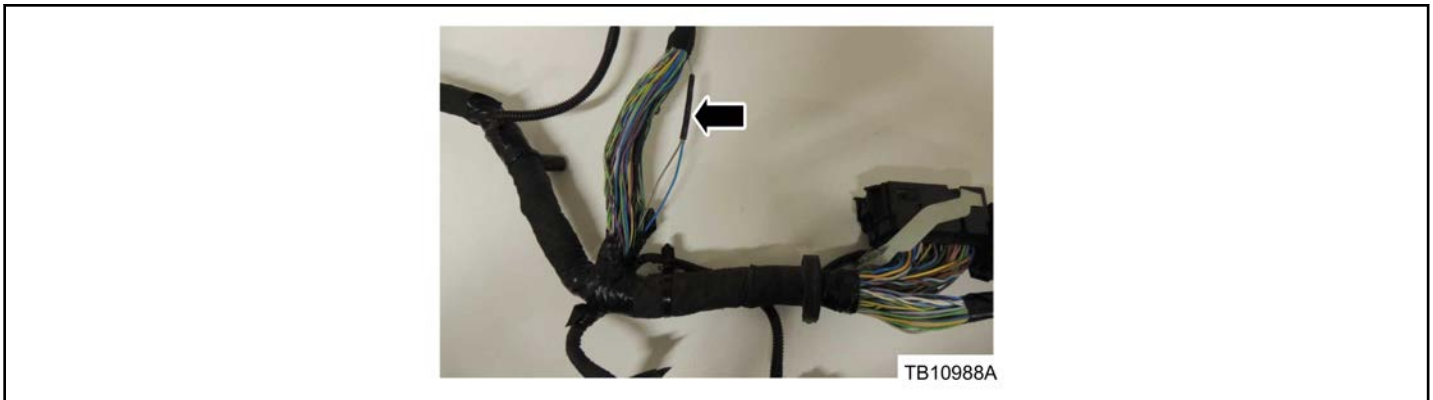

Figure 1 - Article 16-0161
6. Locate the section of engine wire harness that contains splice S129. Refer to Wiring Diagram (WD), 152-1 component location charts.
9. Locate splice S129. (Figure 1)